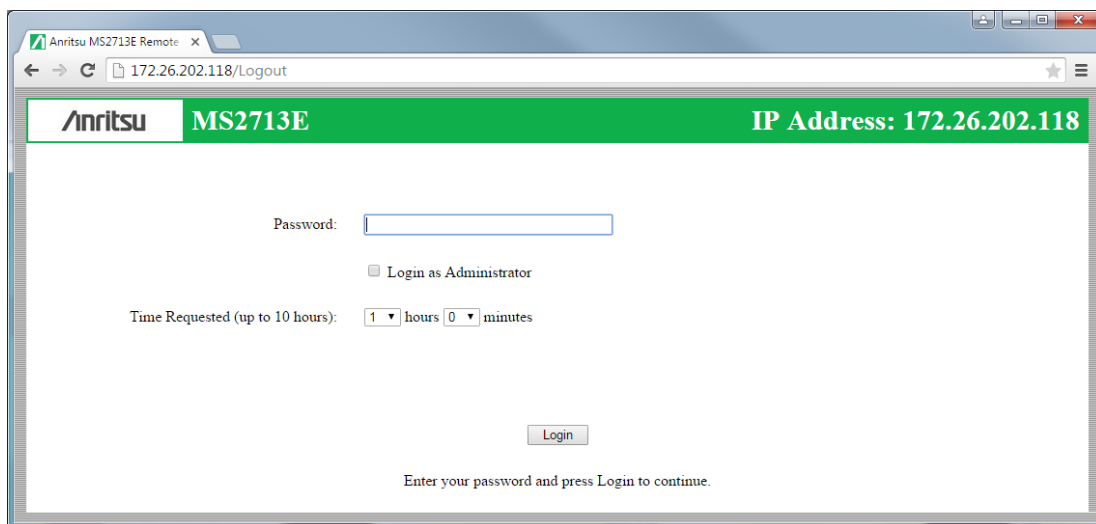

Figure 9-1. Login Page
7. Enter the instrument IP address in the browser address bar to open the Web Remote Control Login page illustrated in Figure 9-1 on page 9-3.
6. In the browser address bar, enter the instrument IP address set in Step 1 to open the Web Remote Control Login page illustrated in Figure 9-1 on page 9-3.
7. Enter the instrument IP address in the browser address bar to open the Web Remote Control Login page illustrated in Figure 9-1.
The Web Remote Control Login page opens following browser connection to the instrument. See Figure 9-1. The page may show or hide certain elements depending on device management options set by the Administrator, as described in “Device Options” on page 9-11.